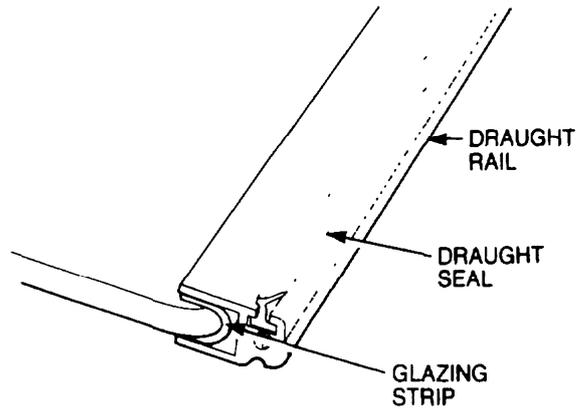

Figure 230 Draught Rail Removal
- j. Remove the draught rail seal by pulling it out of the groove (Figure 230).